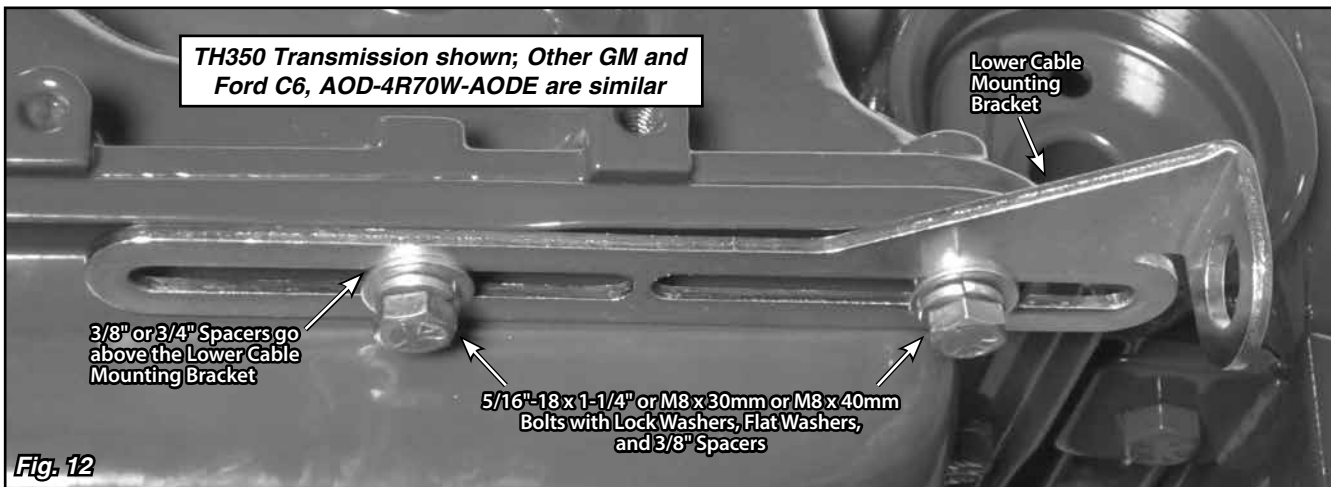

Fig. 12
Step 3, GM TRANSMISSIONS: Install the lower cable mounting bracket on the left side of the transmission pan, using the provided longer bolts, lock washers, flat washers, and 3/8" spacers. Do not tighten the bolts yet. Most TH350 and TH400 transmissions use standard thread bolts (5/16"-18 x 1-1/4"). 700-R4, 200-4R, 4L60, 4L60E, and 4L80 transmissions use metric bolts (M8 x 30mm). The TH350 uses the two rearmost pan bolts on the left side. TH400, 700-R4, 200-4R, 4L60, 4L60E, and 4L80 use the two pan bolts directly behind the selector shaft. **Fig. 12**
On C6 and AOD-4R70W-AODE transmissions, remove the two transmission pan bolts directly behind the selector shaft. Install the lower cable mounting bracket using the provided spacers and bolts. C6 uses 3/8" spacers and 5/16"-18 x 1-1/4" bolts with flat washers and lock washers, and AOD-4R70W-AODE uses 3/4" spacers and M8 x 40mm bolts with flat washers and lock washers. **Fig. 12**